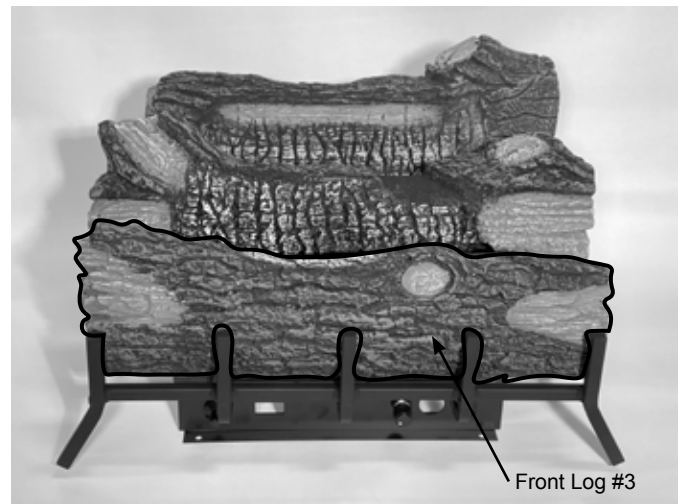

Figure 6.8 - Place Front Log
3. Place Front Log (#3) in between burner and grate. Figure 6.8